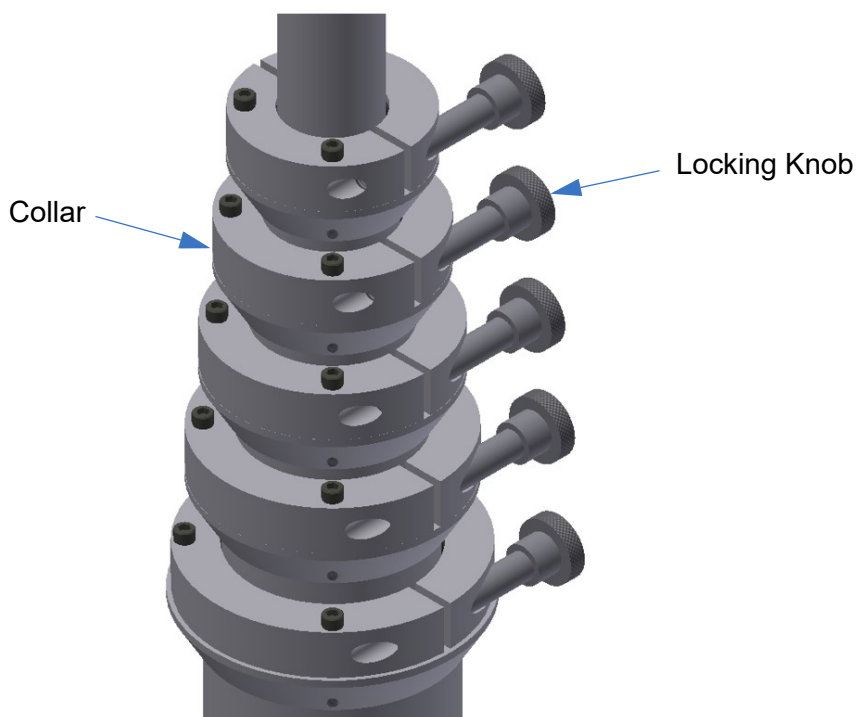

Figure 6-3 Loosen Locking Knob on Collar
2. Unlock the lowest tube collar. To unlock the collar, securely grip the tube just above the bottom collar. Loosen the knob on the collar and carefully lower that tube (Figure 6-3). Take care not to pinch your fingers between the collars as the tube is lowered. The mast will retract by its own weight and the weight of the payload.